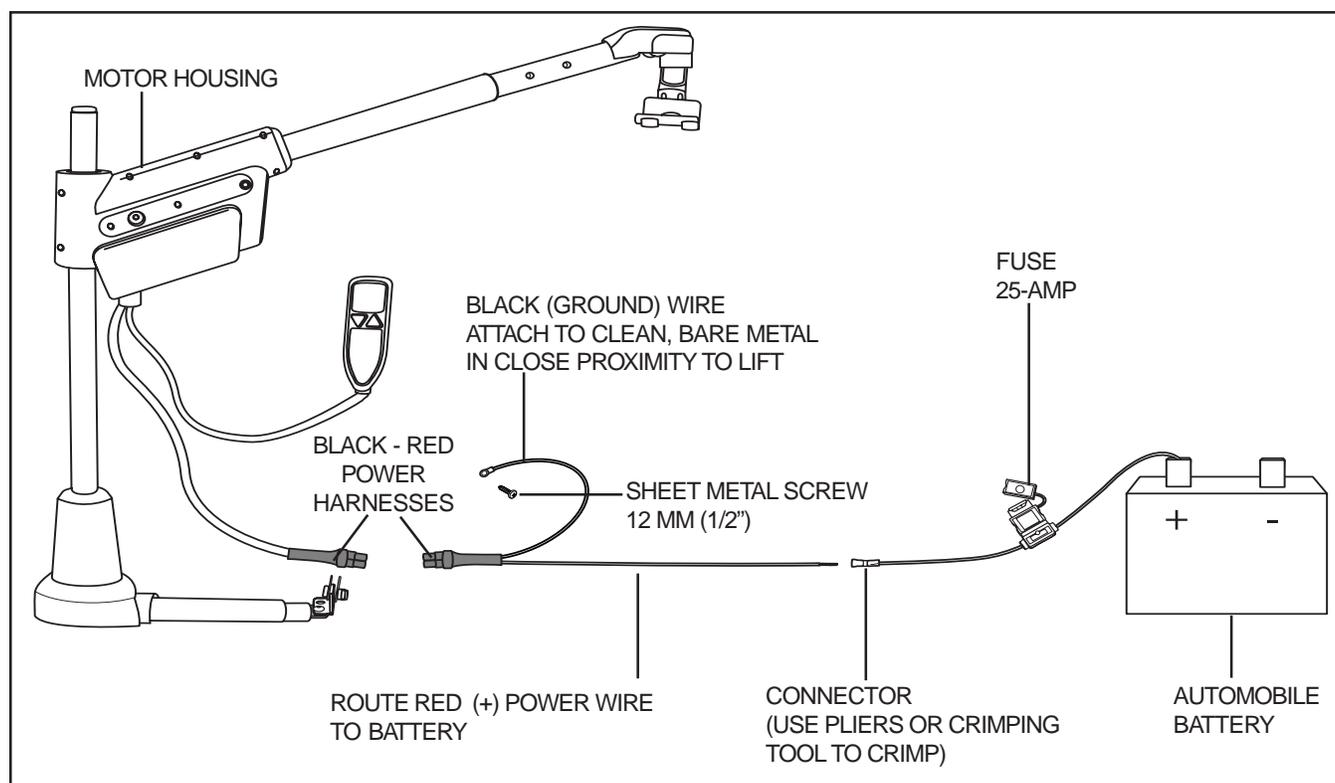

Figure 12. Electrical Wiring Connections
1. Route the lift's long red positive (+) power wire (starting at the lift) through the interior of the vehicle until you reach the automobile battery. **See figure 12.** Conceal the wire behind or under the interior panels (there should be existing holes). Be certain that the wire is protected with a rubber grommet when passing it through the metal panels and into the engine compartment. Inside the engine compartment, secure the wire to the firewall and the inner fender with the supplied plastic wire ties. Use care not to cause abrasions to the power wire. It is important to secure the power wire at various points along its run.
NOTE: If installed in a trunk, disconnect the black-red power harness (see figure 12) and remove the motor housing and upper post and place it in an area where it will be secure. The height of the boom arm will not allow the trunk to close.